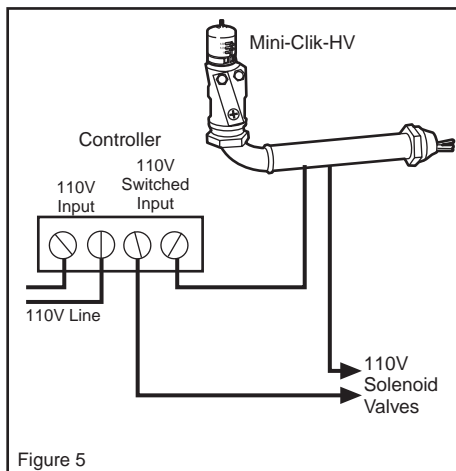

Figure 5
C. Special Instructions for Mini-Klik-HV (See Figures 5 and 6)